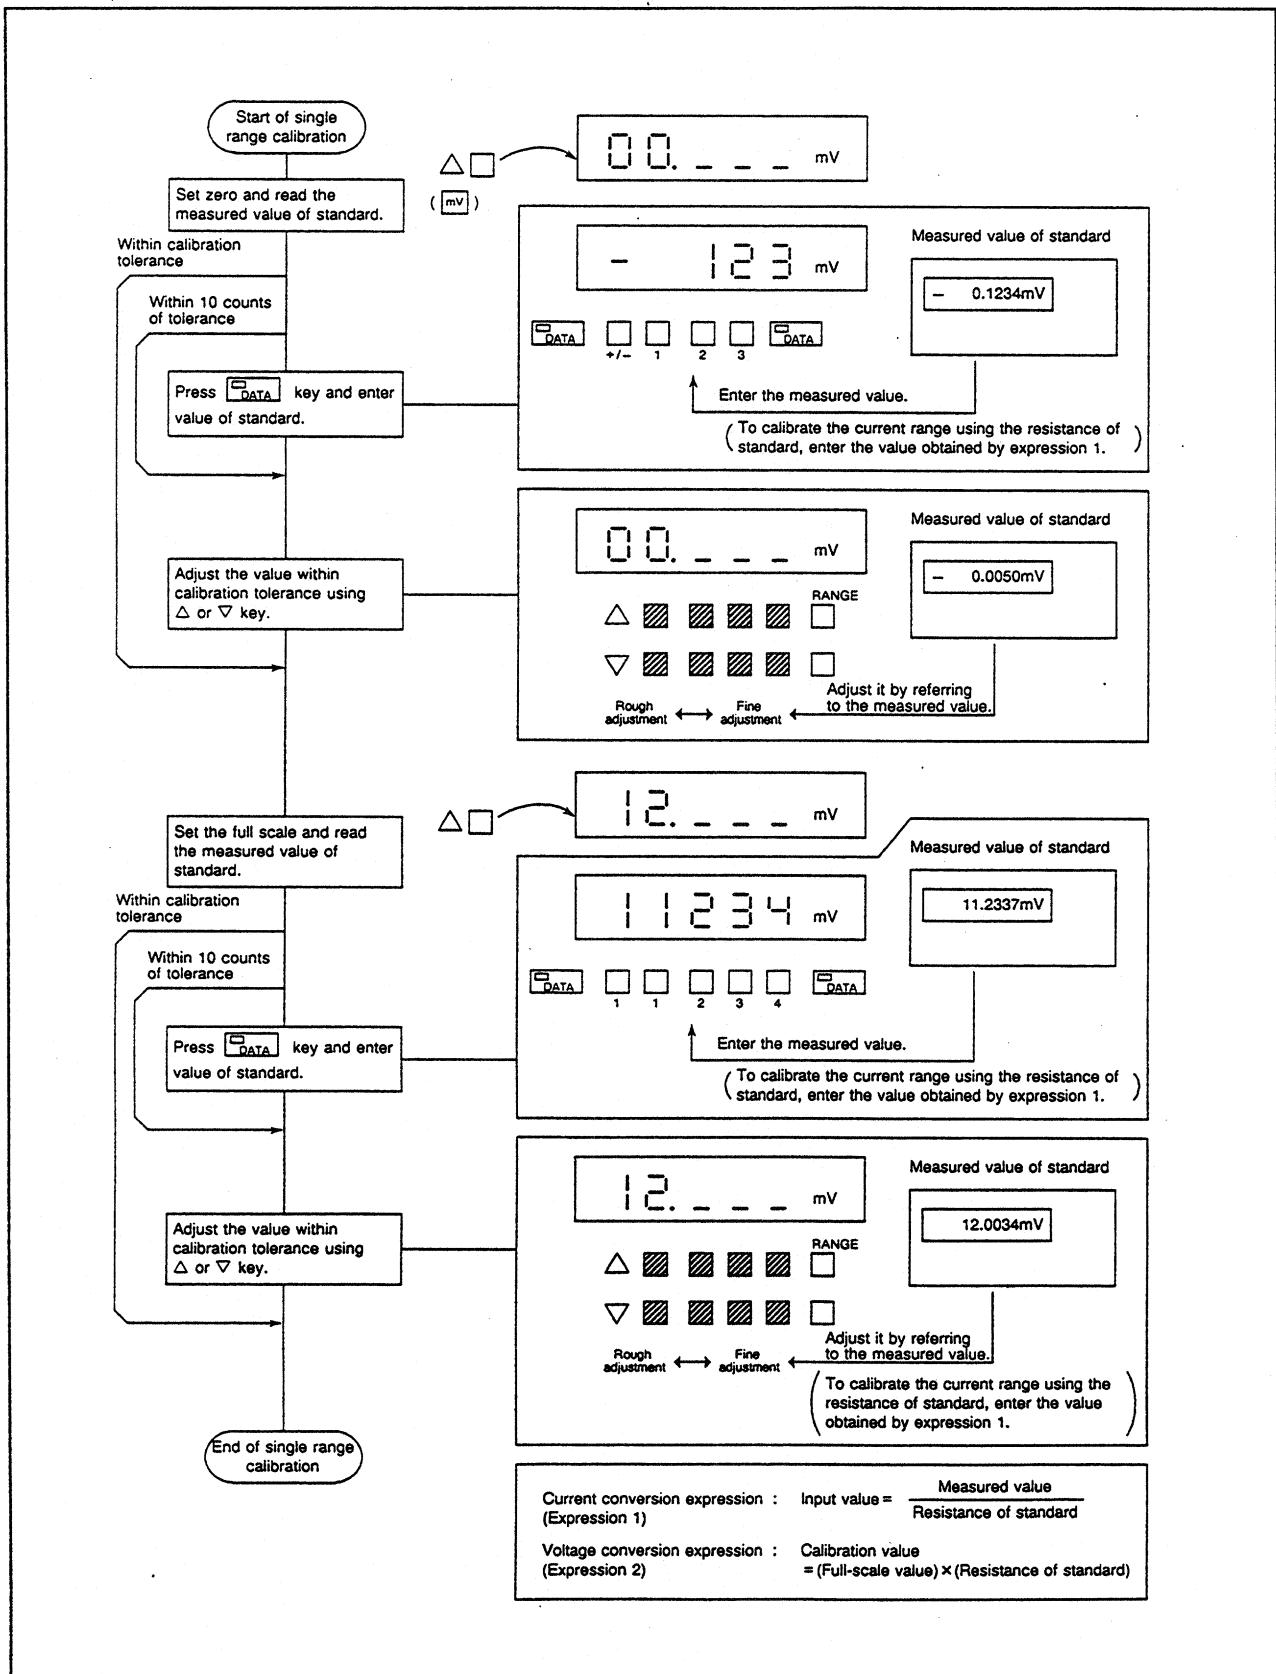

Figure 5-2 Calibration of A Single Range using R6142
- ⑤ Select the calibration range using the Δ or ∇ key, and set the standard as defined on Table 5-5.
- ⑥ Press the  key to light its LED. (OPERATE ON)
- ⑦ Calibrate and check the parameters using the Δ or ∇ key and  and  keys in the sequence of "+ Zero" and "+ Full scale as shown in Figures 5-2 and 5-3.
- ⑧ Press the  key to turn off its LED. (OPERATE OFF)
- ⑨ Repeat Steps ⑤ to ⑧ to calibrate the range between the setup functions.
- ⑩ Turn off the EXT CAL switch on the rear panel, and press the  STEP key.
- ⑤ Select the calibration range using the Δ or ∇ key, and set the standard as defined on Table 5-7.
- ⑦ Calibrate and check the parameters using the Δ or ∇ key and  and  keys in the sequence of " + Zero" and " + Full scale" as shown in Figures 5-2 and 5-3.